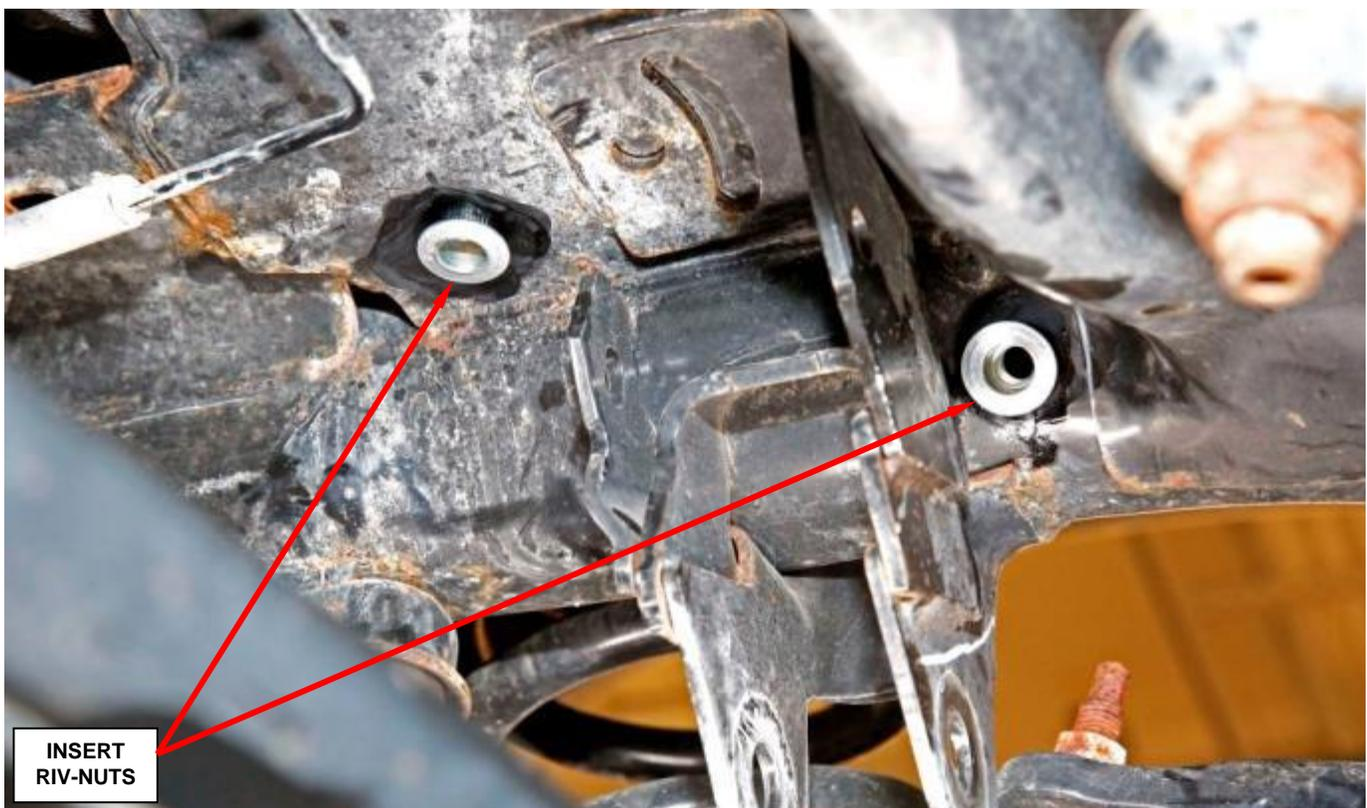

Figure 11 – Install Two Riv-Nuts
15. Using a small hammer, tap a riv-nut into each of the 17/32” diameter holes (Figure 11).